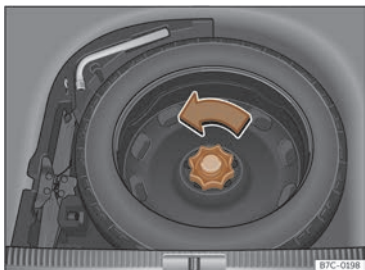

Fig. 222 In the luggage compartment: raised load floor.
- Turn the thumb wheel anticlockwise >>> **Fig. 222**.